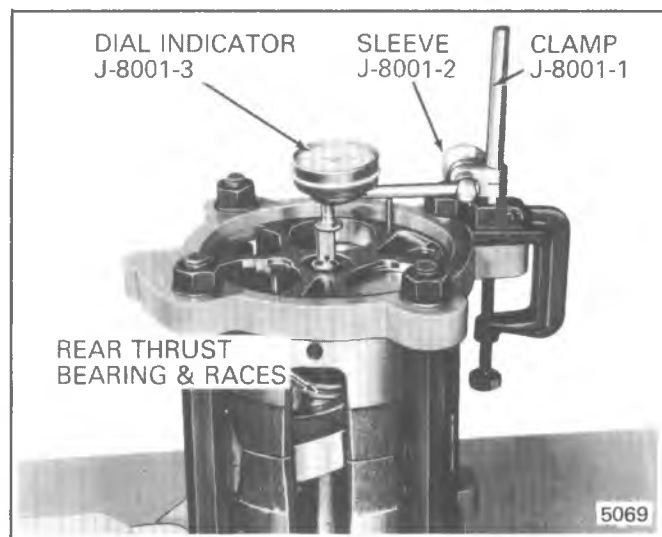

Fig. 1D-48 Gaging A-6 Rear Thrust Race
Fifteen (15) thrust races are provided in increments of .0005" (one-half thousandths) thickness and one ZERO gage thickness, providing a total of 16 sizes available for field service. The thrust race "number" also corresponds to the last three digits of the piece part number. See Thrust Race Size Chart in Fig. 1D-46.